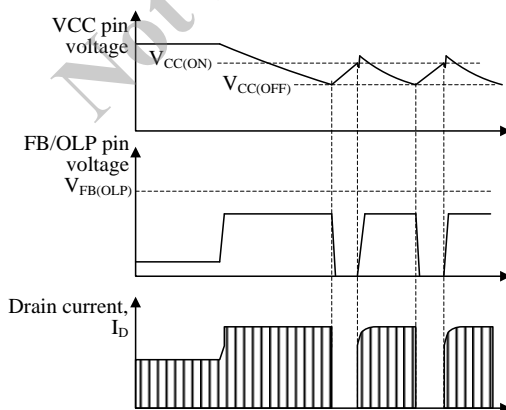

Figure 9-32 OLP operation waveform at output shorted (without latched operation)
In OLP state as an output shorted, the output voltage and VCC pin voltage decrease. During the operation, Bias Assist Function is disabled. Thus, VCC pin voltage decreases to VCC(OFF), the control circuit stops operation. After that, the IC reverts to the initial state by UVLO circuit, and the IC starts operation when VCC pin voltage increases to VCC(ON) by startup current. Thus the intermittent operation by UVLO is repeated in OLP state without latched operation as shown in Figure 9-32.